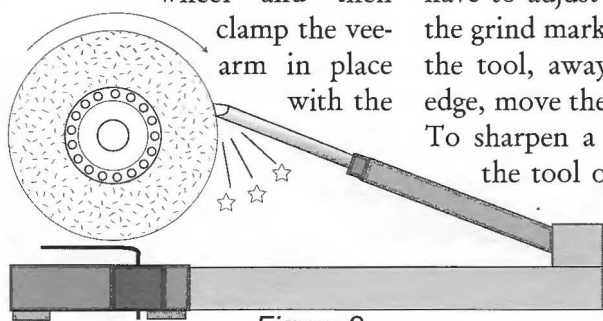

Figure 2
To sharpen a bowl gouge touch the tool on the wheel (fig 2) and roll the gouge to each corner of
3. Now screw down the assembly to the grinder mounting board (as shown in Fig 2.).